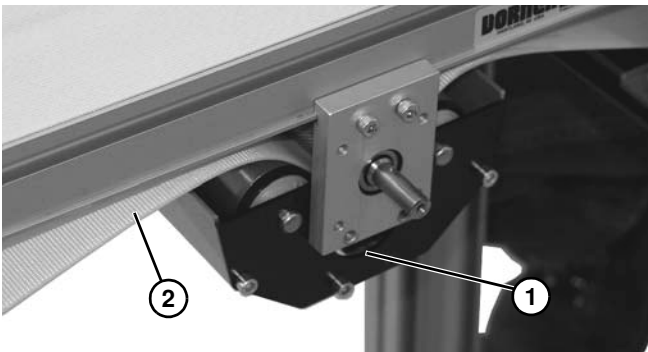

Figure 73
4. Lower and remove mid drive module (**Figure 73, item 1**) from belt (**Figure 73, item 2**).